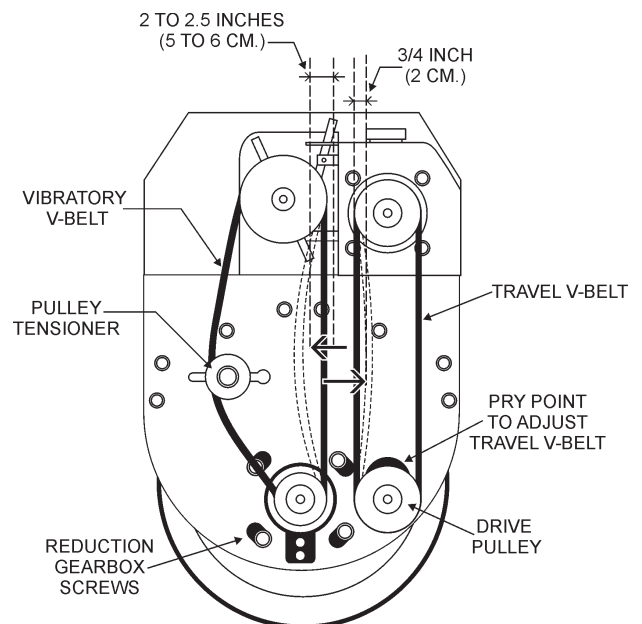

Figure 33. Travel and Vibratory V-Belts
1. Un-lock the hood retaining latch and lift the hood to gain access to the V-belts. To adjust the **travel** V-belt, loosen the four mounting screws on the reduction gearbox (Figure 33)
2. Use the prypoint (Figure 33) to achieve correct amount of V-belt tension. Tighten gearbox screws, and check belt tension by verifying the amount of deflection when the belt is pressed midway between the two pulleys. This deflection should be approximately 3/4 of an inch (2 cm.)
1. To adjust the vibratory V-belt, loosen the pulley tensioner nut (Figure 33) and adjust the V-belt for approximately 2 to 2-1/2 inches (5 to 6 cm.) of deflection. Check V-belt deflection when V-belt is pressed midway between the two pulleys. When the correct amount V-belt deflection has been achieved, retighten pulley tensioner nut.